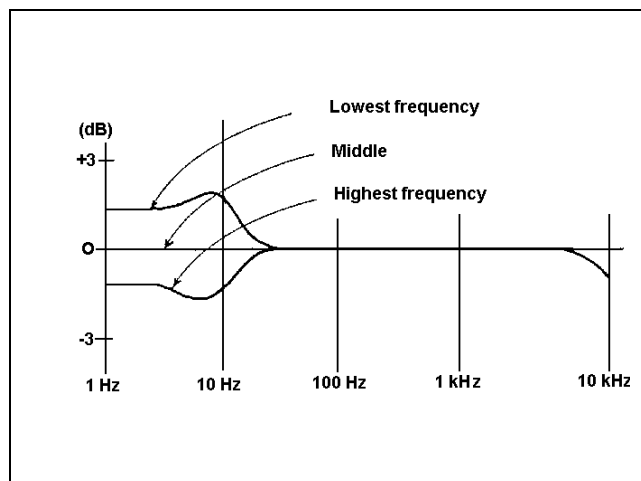

Figure 5 - Typical Frequency Characteristics
4. Change the carrier frequency to the highest channel of the band and then to the lowest channel. Check the modulation flatness each time (refer to Figure 5).